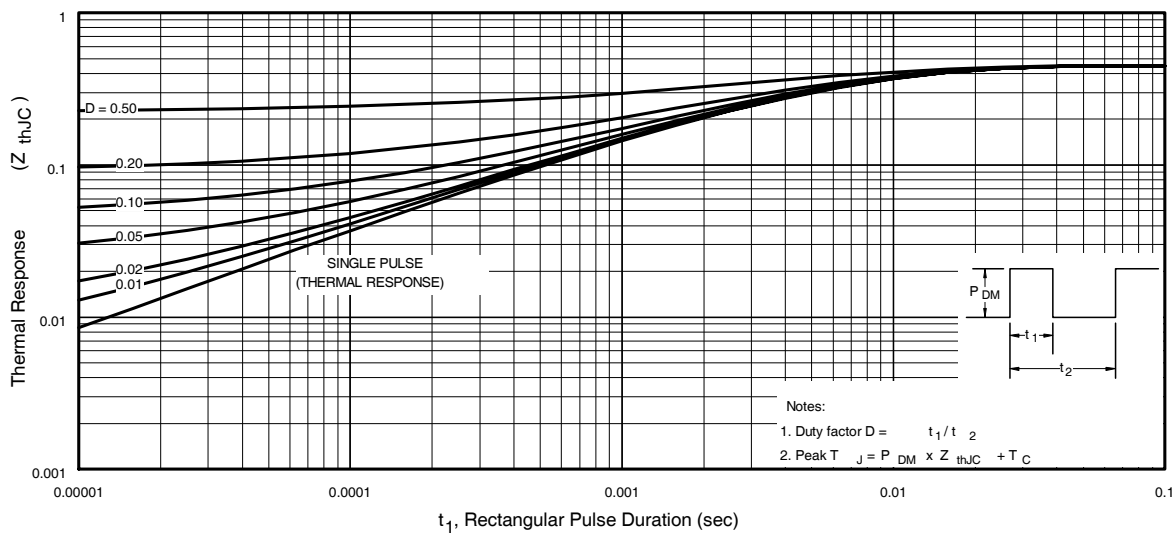

Fig 11. Maximum Effective Transient Thermal Impedance, Junction-to-Case
- ① Repetitive rating; pulse width limited by max. junction temperature. (See fig. 11).
- ② Starting $T_J = 25^\circ\text{C}$, $L = 0.08mH$
$Z_{thJC}(D, t_{av})$ = Transient thermal resistance, see figure 11)